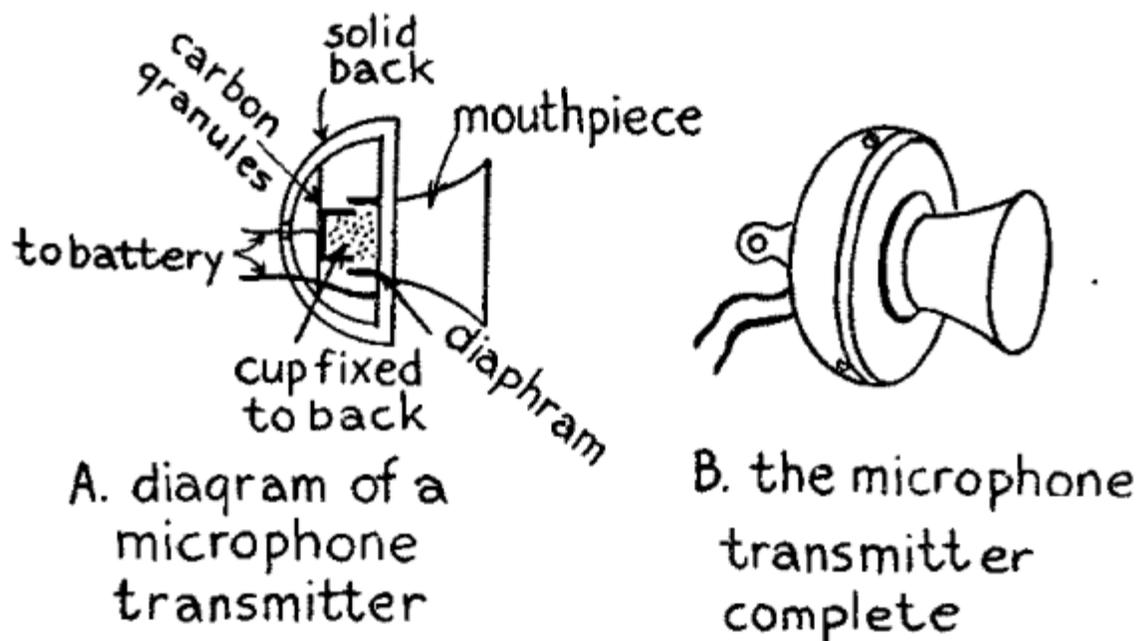

FIG. 84.—Standard Microphone Transmitter.
The Microphone Transmitter.--The best kind of a microphone to use with this and other telephone transmitting sets is a *Western Electric No. 284-W*. [Footnote: Made by the Western Electric Company, Chicago, Ill.] This is known as a solid back transmitter and is the standard commercial type used on all long distance Bell telephone lines. It articulates sharply and distinctly and there are no current variations to distort the wave form of the voice and it will not buzz or sizzle. It is shown in *Fig. 84* and costs \$2.00. Any other good microphone transmitter can be used if desired.
In addition to the above apparatus you will need: (12) a *microphone transmitter* as shown in Fig. 84; (13) a battery of four dry cells or a 6 volt storage battery, and either (14) a *telephone induction coil* as shown in Fig. 86; (15) a *microphone transformer* as shown in Fig. 87; or a *magnetic modulator* as shown in Fig. 88. All of these parts have been described, as said above, in Chapter XVI, except the microphone modulators.
The Microphone Transmitter.--The microphone transmitter that is used to vary, or modulate, the sustained oscillations set up by the oscillator tube and circuits is shown in *Fig. 84*. By referring to the diagram at *A* in this figure you will readily understand how it operates. When you speak into the mouthpiece the *sound waves*, which are waves in the air, impinge upon the diaphragm and these set it into vibration--that is, they make it move to and fro.